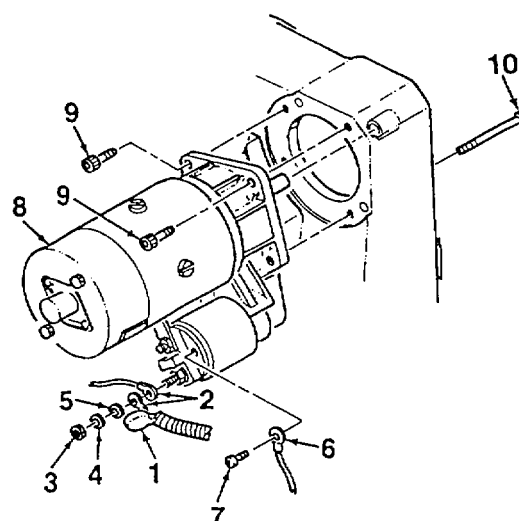

Figure 4-44. Engine Starter (Sheet 1 of 2)
1. Pull back rubber boot (1, Figure 4-44) to expose wire lug (2). Remove nut (3), lockwasher (4), and washer (5).
2. Tag electrical wire (6). Disconnect wire from starter by removing screw (7).
3. Remove starter (8) from engine by removing screws (9, 10).